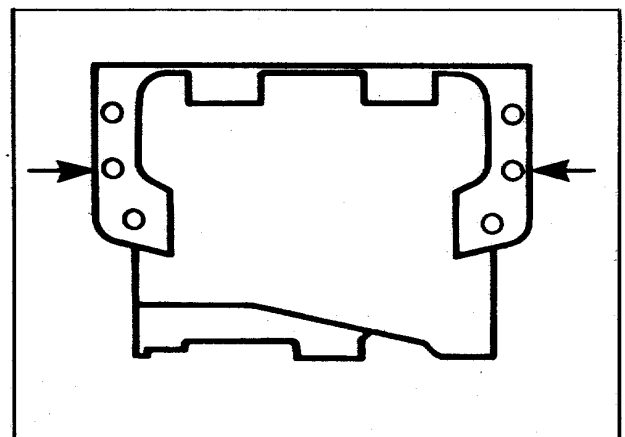

Fig. 14-62. Install Two Capscrews Into The Buttruss End Of The Oil Pan.
- a. Install and tighten the middle capscrew in each of the two butresses on the flywheel housing, Fig. 14-62.